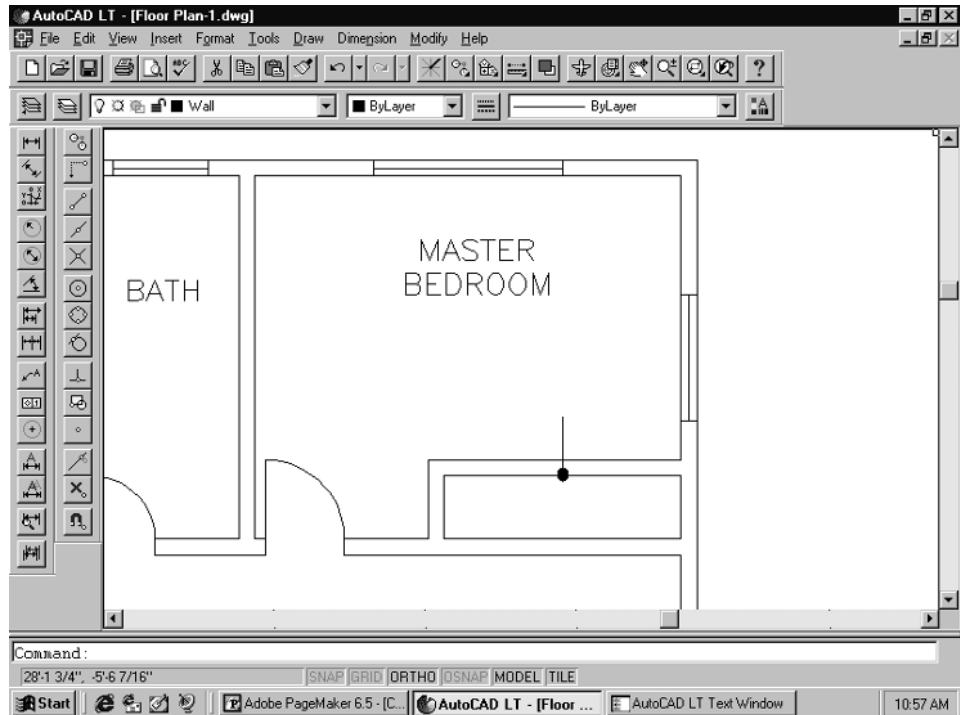

Figure 2-54
3. The next task is to cut the opening for the closet door. Take a look at Sheet #1. This is supposed to be a 7' bypass door. You need to draw a line from the center of the inside closet wall across the outer closet wall line. See Figure 2-54.